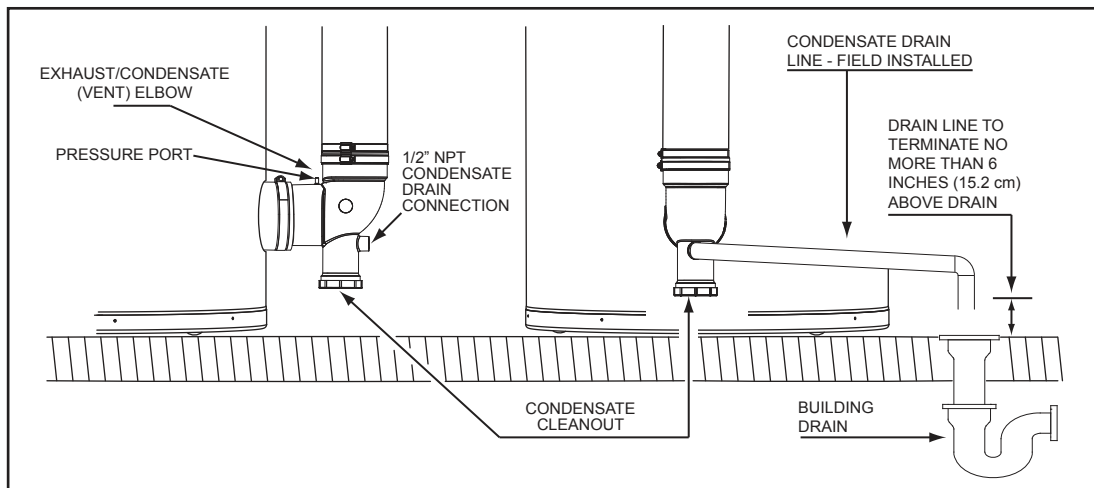

Figure 50. Condensate Drain Installation
2. Install a 1/2 inch PVC condensate drain line between the condensate drain connection on the Exhaust/Condensate Elbow and a suitable building drain. The exhaust elbow has a "built in" condensate trap. Do not install an additional trap in the condensate drain piping. See *Figure 50*.
3. Terminate the condensate drain piping with an elbow above the drain. Ensure that any discharge will exit the condensate drain line no more than 6 inches (15.2 cm) above a suitable building drain, or external to the building. See *Figure 50* (page 37).
4. Ensure the condensate drain line is not elevated above the condensate drain connection on the exhaust/condensate elbow. See *Figure 50*.